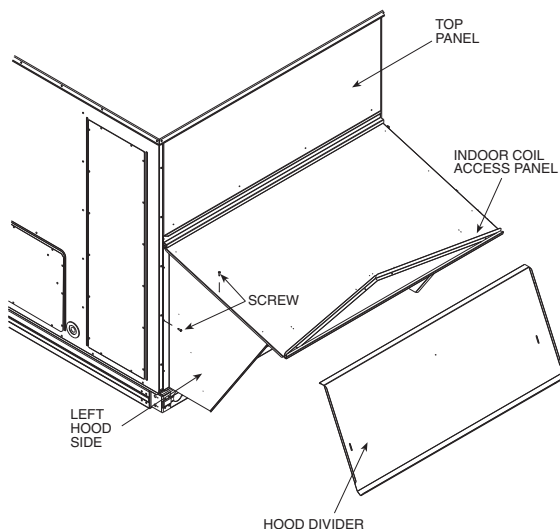

Fig. 21 — Economizer Hood Construction (Size 180 Shown)
2. Swing out indoor coil access panel and insert the hood sides under the panel (hood top). Be careful not to lift the panel too far as it might fall out. Use the screws provided to attach the hood sides to the hood top. Use screws provided to attach the hood sides to the unit. See Fig. 21.
4. Insert the hood divider between the hood sides. See Fig. 21 and 22. Secure hood divider with 2 screws on each hood side. The hood divider is also used as the bottom filter rack for the aluminum filter.